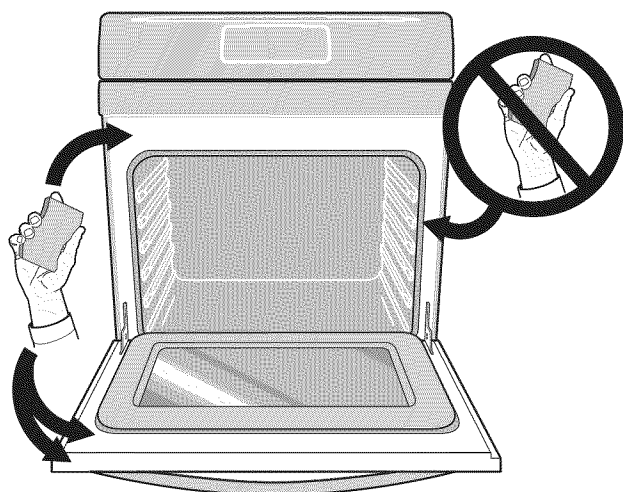

Figure 28: Oven door area to clean and not clean (gasket).
- Clean any soil from the oven frame, the door liner outside the oven door gasket and the small area at the front center of the oven bottom (Figure 28). These areas heat sufficiently to burn soil on. Clean using soap and water prior to starting Self Clean.
- Do not clean the oven door gasket (Figure 28). The woven material of the oven door gasket is essential for a good seal. Care should be taken not to rub, damage or remove the gasket. Do not use any cleaning materials on the oven door gasket. Doing so could cause damage to the door gasket.